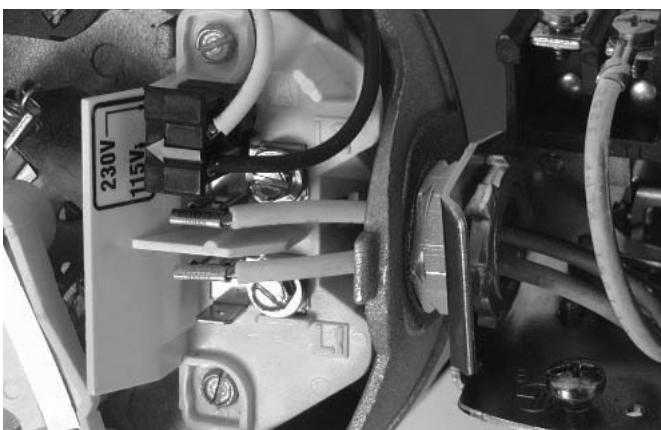

Figure 7: Voltage set to 115 volts, Plug Type
3. Move the voltage change plug to the 115 volt position. The plug will now cover 2 metal tabs and the arrow on the plug will line up with the 115V arrow on the label (see Figure 7).